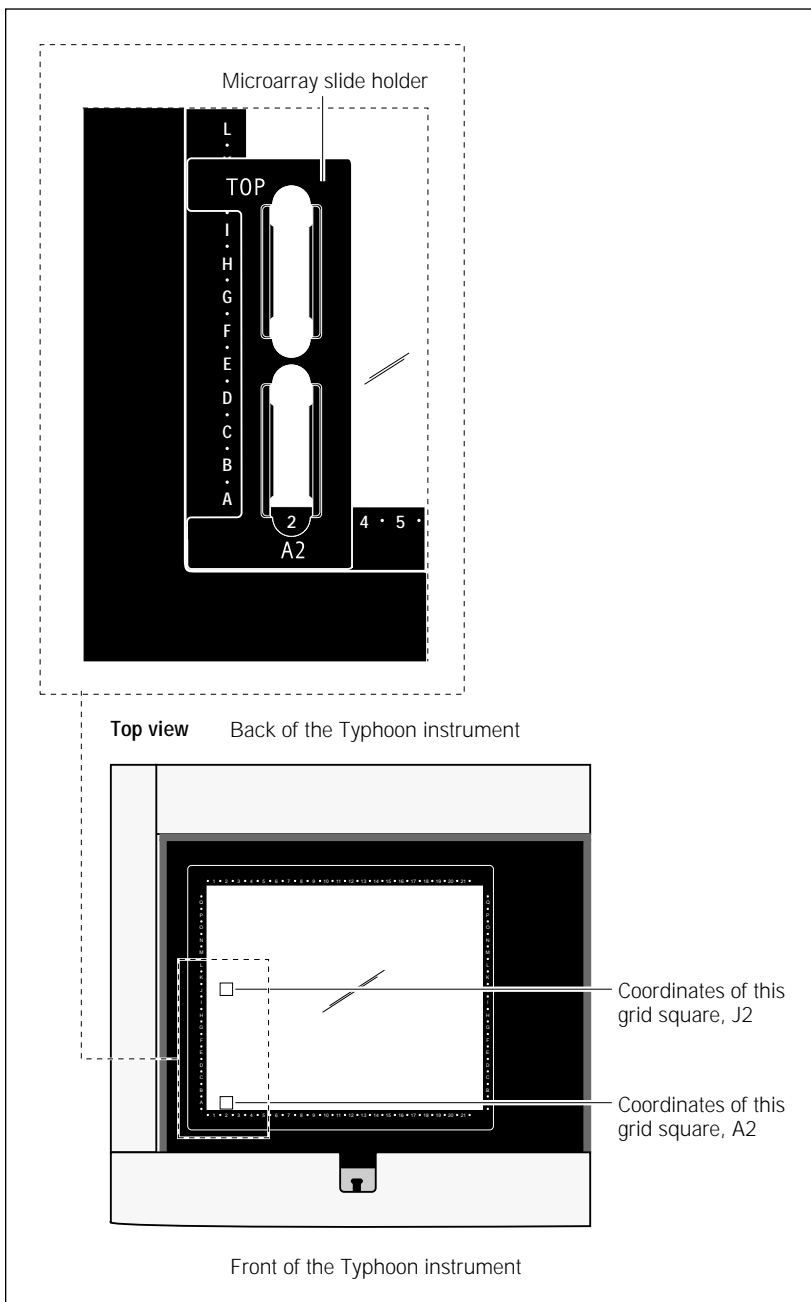

Figure 8-4. Positioning the microarray slide holder on the glass platen.
3. Gently position the slide holder at the front left corner of the glass platen as shown in figure 8-4.
6. Make sure the slides are seated in the grooves of the slide holder and make sure the slide holder is seated firmly against the front and left metal sides of the platen area as shown in figures 8-4 and 8-5. The positions of the slides and the slide holder keep the slides at the proper angle and location for accurate scanning.